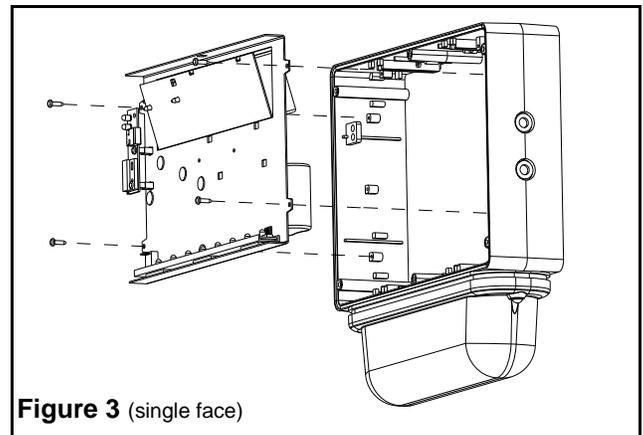
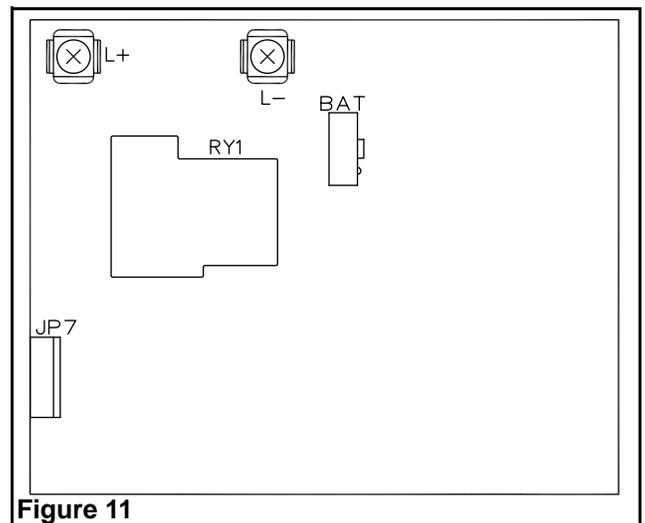

Figure 3 (single face)
Figure 11
- g. In order to access the knockouts of the frame, remove the 4 electronic module screws holding the module to the frame (see fig. 3 & 4), disconnect the lamps from charger board terminal "L+ & L-" (see on fig. 11) and remove the electronic module.
- c. Remove the 4 electronic module screw(s) holding the electronic module to the frame (see fig. 3 & 4), disconnect the lamps from terminal block and remove the electronic module.